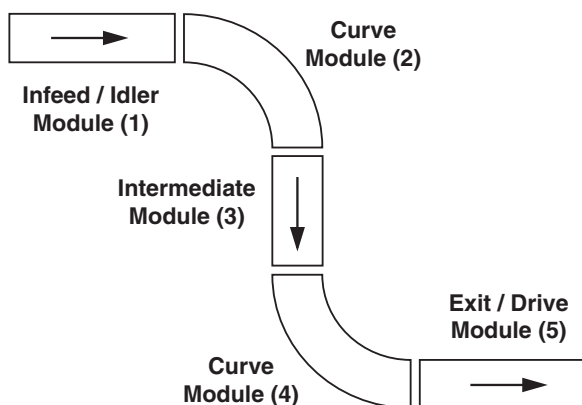

Figure 6
- Position the frame sections in the correct order (**Figure 6**).